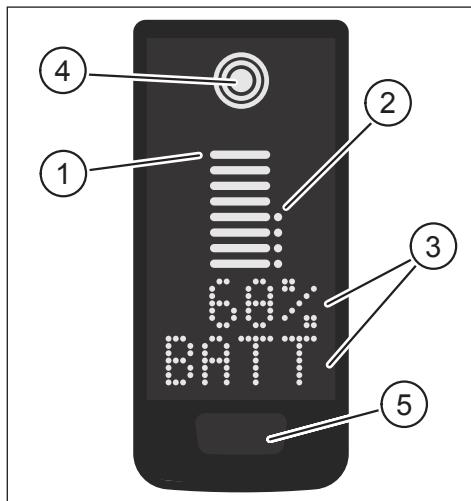
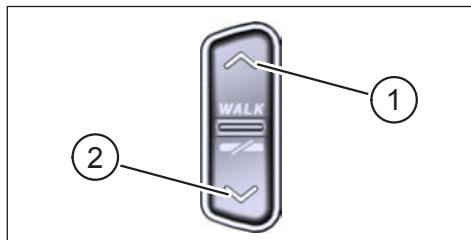

Fig. 1: Operation and indicator components on Display
Fig. 2: Operation on the Remote
Pos. in Fig. 1	Description
Pos. in Fig. 2	Description
- ▶ Press and hold the button on the Display (pos. 5 in Fig. 1) and the DOWN button on the Remote (pos. 2 in Fig. 2) for at least 5 seconds.
- With a **double click** press on the button on the Display (pos. 5 in Fig. 1) you switch to the next screen view.